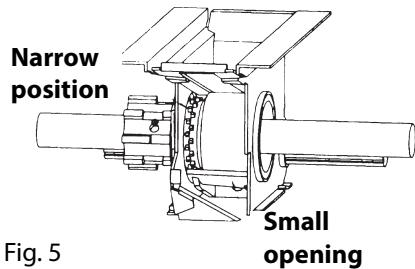

Fig. 5
- Narrow position with small housings, used for small seeds (fig. 5).
- It adjusts its opening to adapt to the seed's size. (figs. 5, 6 and 7).